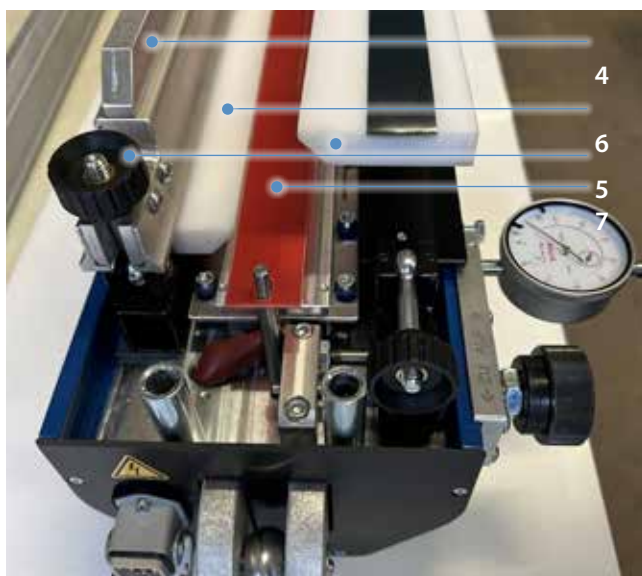

Fig. 4.2.2
3. Remove the upper belt holders (4) on both sides. Loosen the knurled nuts (5) on the belt holders and open out the eye bolt. (Fig. 4.2.2)
4. Add the inlays (6) for the belt to be spliced to the press. Position the laminated fabric inlay (7) in the bottom part of the press using the positioning hole. (Fig. 4.2.2)